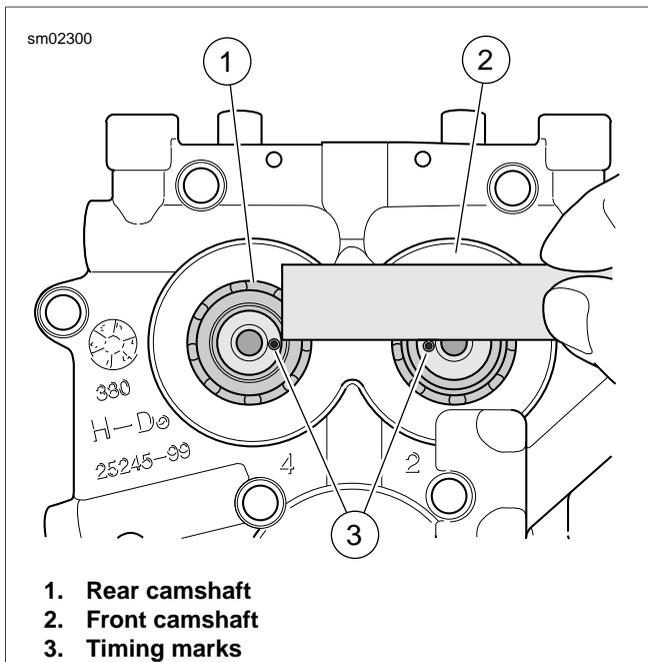

Figure 3-60. Verify Alignment of Timing Marks
3. See Figure 3-60. Using a straightedge, verify that the timing marks on the ends of the front and rear camshafts are in alignment. If necessary, rotate camshafts in order to make this observation.